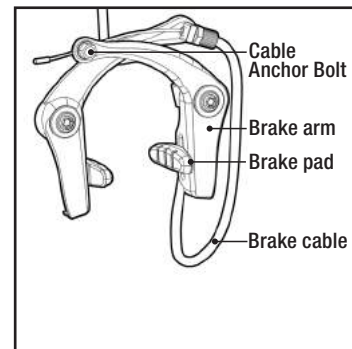
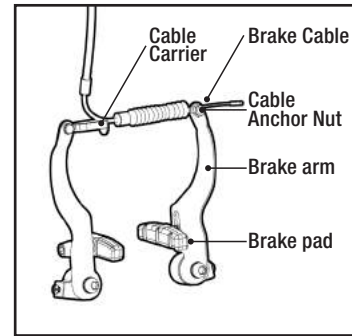

Figure 31
Figure 33
Before installing the front wheel, ensure that the brakes are opened enough to allow the tire to fit through them. On side-pull equipped bikes, you may have to loosen the cable anchor bolt (see Figure 31) in order to allow the tire to fit through. On Linear Brake equipped bikes, squeeze the brake arms together by hand, and lift the cable out of the carrier to open up the brakes (see Figure 33).
**⚠ WARNING:** When assembling or adjusting the brakes, make sure the cable anchor nut is tight. Failure to securely tighten the nut could result in brake failure and personal injury (see Figure 31).